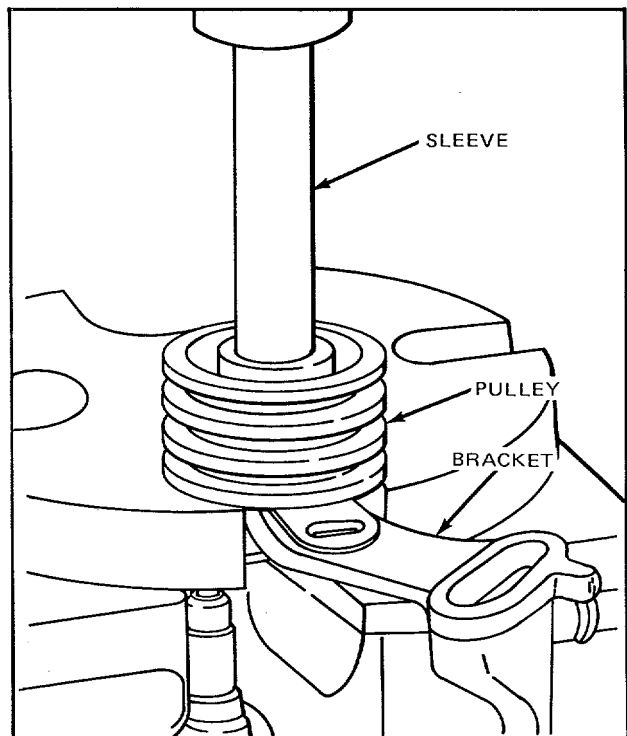

Figure 2. Removing Shaft and Bearing Assembly and Bracket from Idler Pulley
1. Support the pulley, then press the shaft and bearing assembly and bracket from the pulley by applying pressure to the outer race of the bearing (Fig. 2).